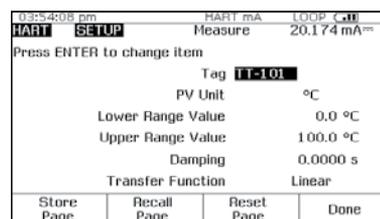

Figure 24.
9. Press the MEASURE/SOURCE button (2) times and input the LRV value (0 degrees C this example) using the 754 keypad and press ENTER.
10. Press **HART** and then press the **Setup** softkey. Select **Basic** from the menu and press **ENTER** to display the basic setup parameters shown in Figure 24. Move the cursor to **Lower Range Value** and press **ENTER**. Move the cursor to **Apply Values** and press **ENTER**. Press **ENTER** to select 4 mA. Press the Continue softkey, then press "any key" then press the Set softkey. Press "any key", the Done and abort Softkeys until you exit to the source screen. Using the 754 keypad, type in the URV (100 degrees C in this example) value recorded in step 8 and press **ENTER**.
11. Repeat step (10) but select 20 mA after Selecting "Apply Values" instead of 4 mA.